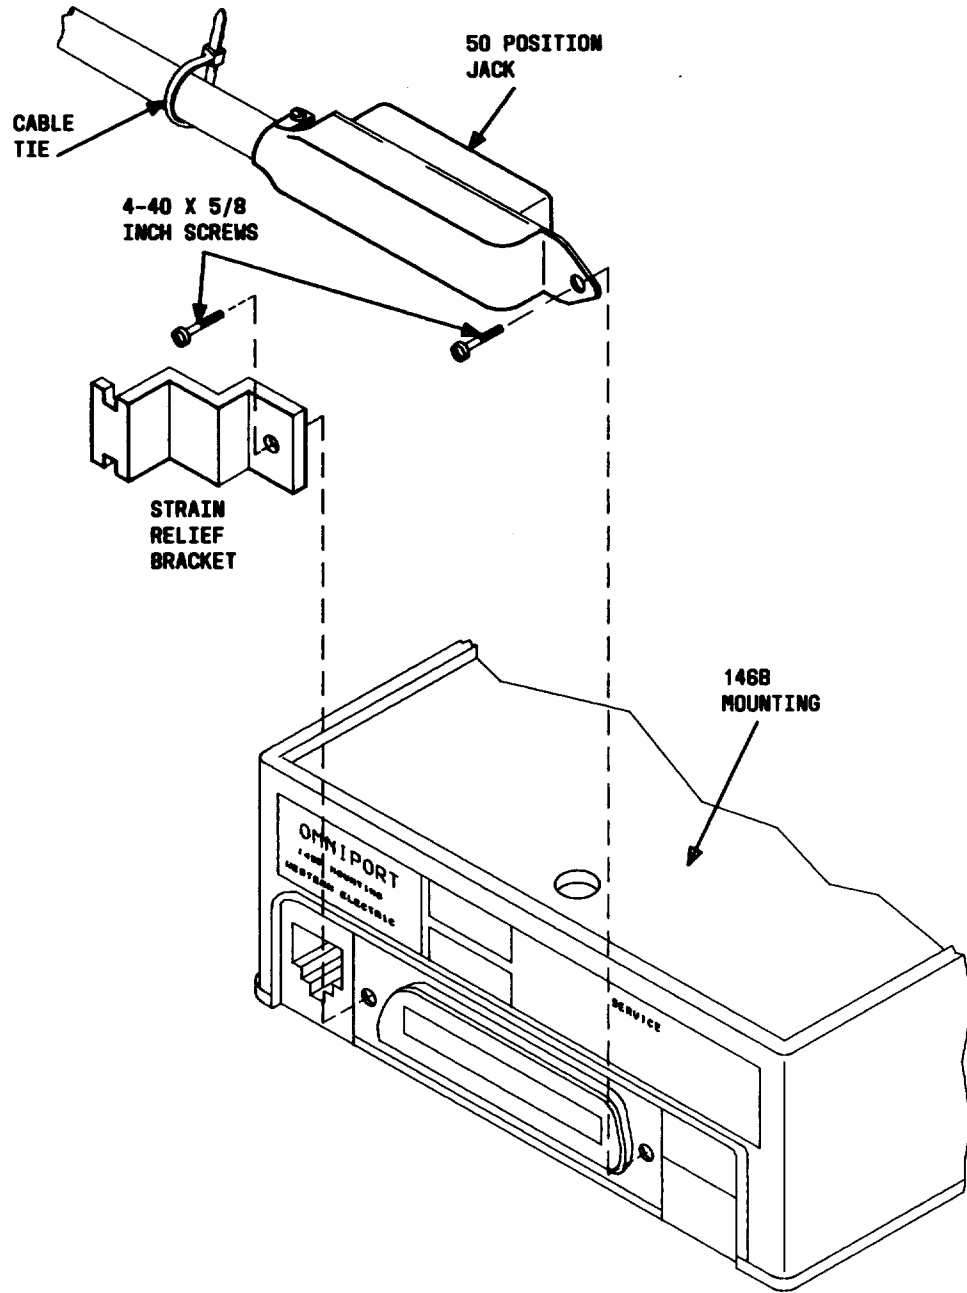

Fig. 4—Installation of Strain Relief Bracket
**4.07** If the 50-position plug is used for customer connections, the strain relief bracket provided in the parts packet should be installed before connecting the 50-position jack to the plug. Figure 4 shows the installation of the strain relief bracket and